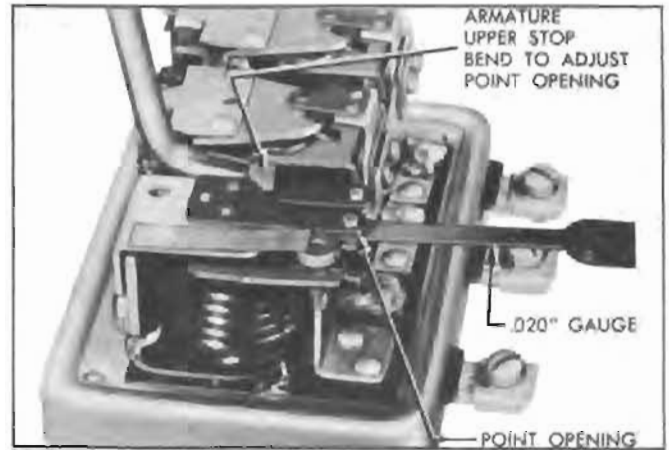

Figure 10-26—Adjustment of Cutout Relay Contact Point Opening
2. Check contact point opening with feeler gauges. Opening should be .020". Increase or decrease point opening, if necessary, by bending the upper armature stop. See figure 10-26.